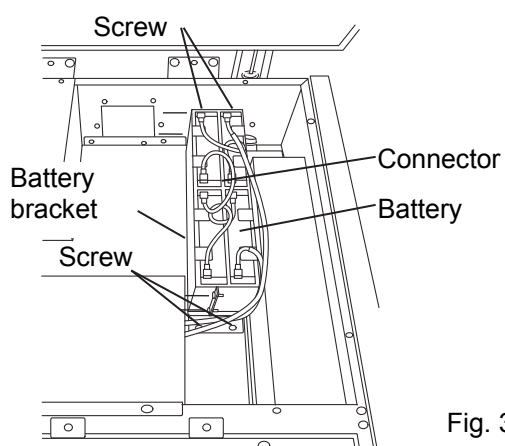

Fig. 3
3. Remove 4 screws which fix a battery bracket on the side table. (Fig. 3)